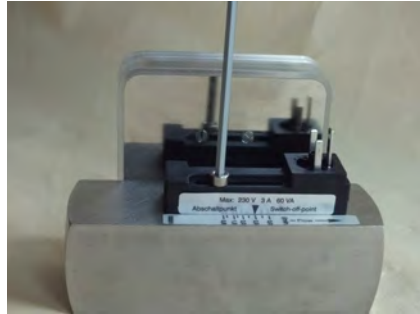

Fig. 69: Loosen set screw
3. ➤ Using a hex screwdriver (Fig. 69), release the set screw of the switch contact, until the switch contact can be removed
10. ➤ Tighten the set screw (Fig. 69/1) observing the proper tightening torque of the screw (*Chapter 11.1 "Tightening torque" on page 81*)